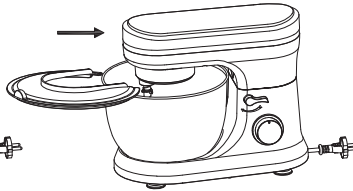

Fig. 5
5. Lower the arm using the lift lever (2). [Fig. 5]
6. Place the splash cover (9) into its body until it locks into place. [Fig. 5]
8. Switch the machine using the speed control knob (3) to a speed between 1 and 8 (according to the mixture).
9. For pulse operation (kneading at short intervals), turn the speed control knob (3) to the P